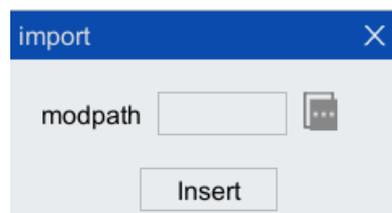

Figure 5-52 "import" instruction configuration interface
Step1.Click "Insert Cmd> auxiliary instruction> import" option in the toolbar of the program editor to pop up "import" instruction interface, as shown in Figure 5-52.